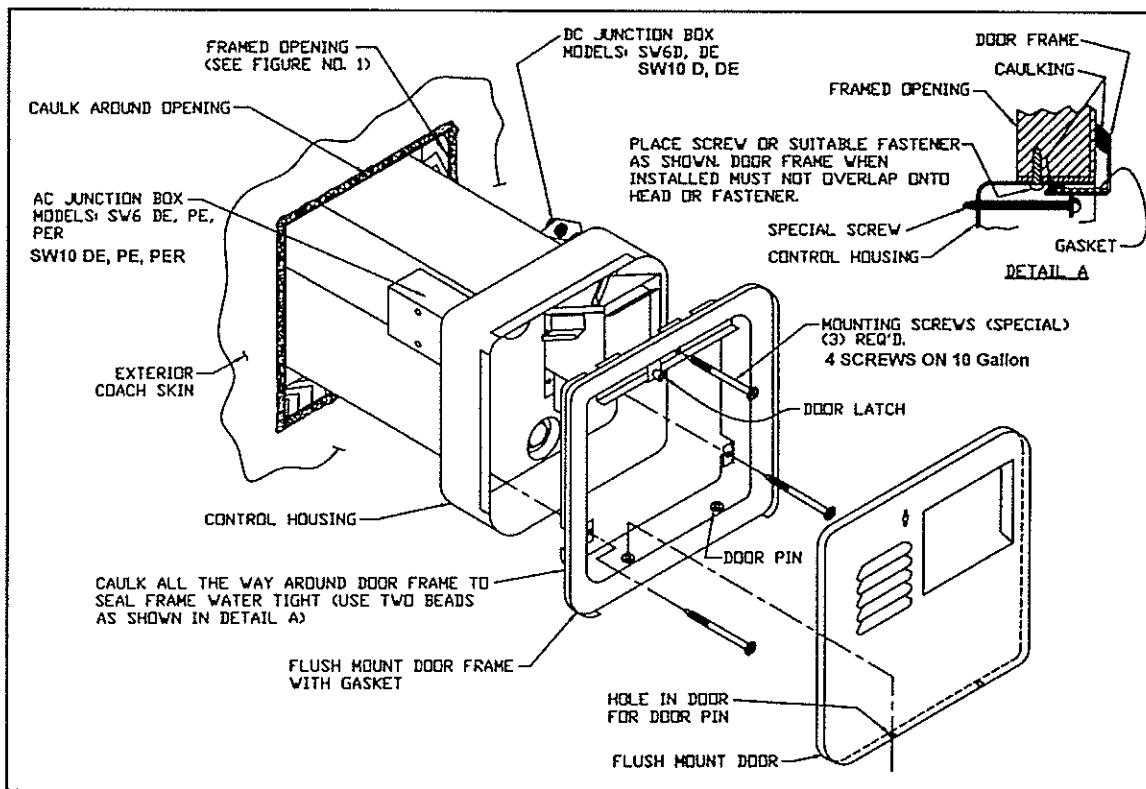

Figure 2
E. Caulk around framed opening as illustrated in Figure 2.
F. Caulk around door frame using 2 beads of silicone caulking (or suitable caulking) one on the flange to seal the control housing and one around back side of frame to seal to coach skin. (See detail A in Figure 2)
G. Insert door frame into control housing and secure with four (4) No. 8-15 x 3 1/2" screws provided for 10 gallon applications and (3) No. 8-15 x 3 1/2" screws provided for 6 gallon applications.
- A. Refer to Figure 2 for location of A.C. and D.C. junction box on specific models. All A.C. connections must be inside junction box.